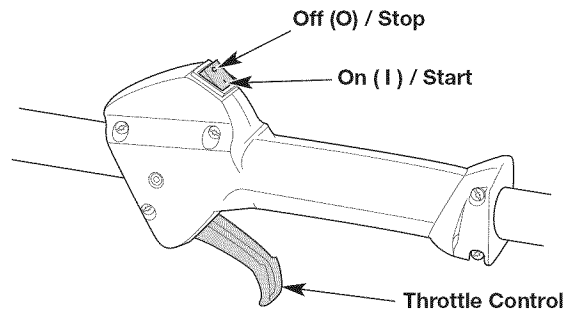

Fig. 8
NOTE: There is no need to turn the unit on. The On/Off switch is in the ON (I) position at all times (Fig. 8).
5. Squeeze and hold the throttle control (Fig. 8).
2. Press and hold the On/Off switch in the OFF (O) position until the engine comes to a complete stop (Fig. 8).
6. Squeeze and hold the throttle control (Fig. 8).